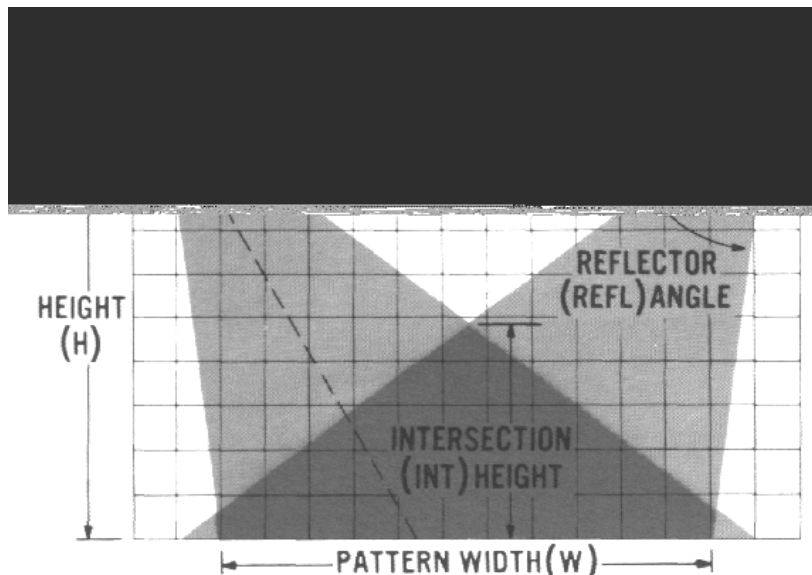
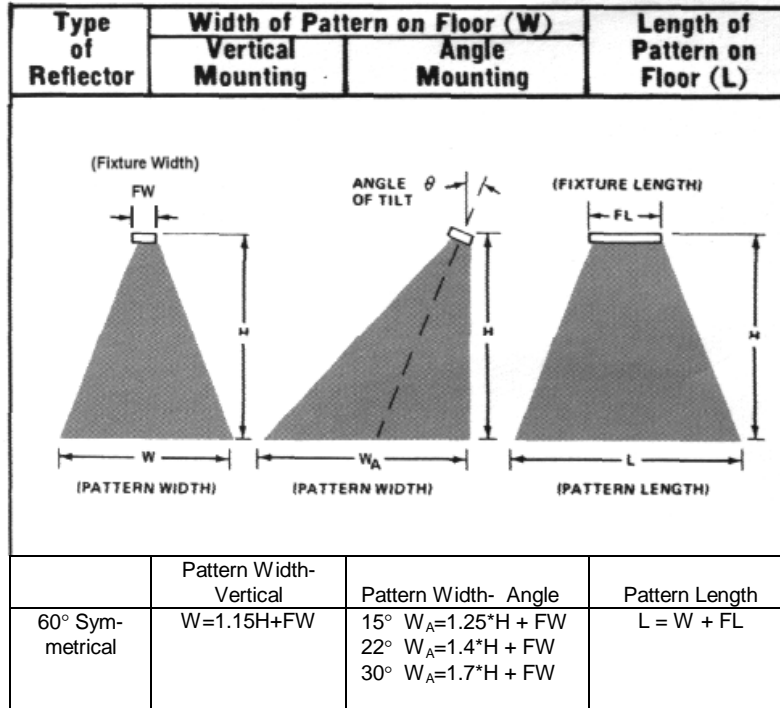
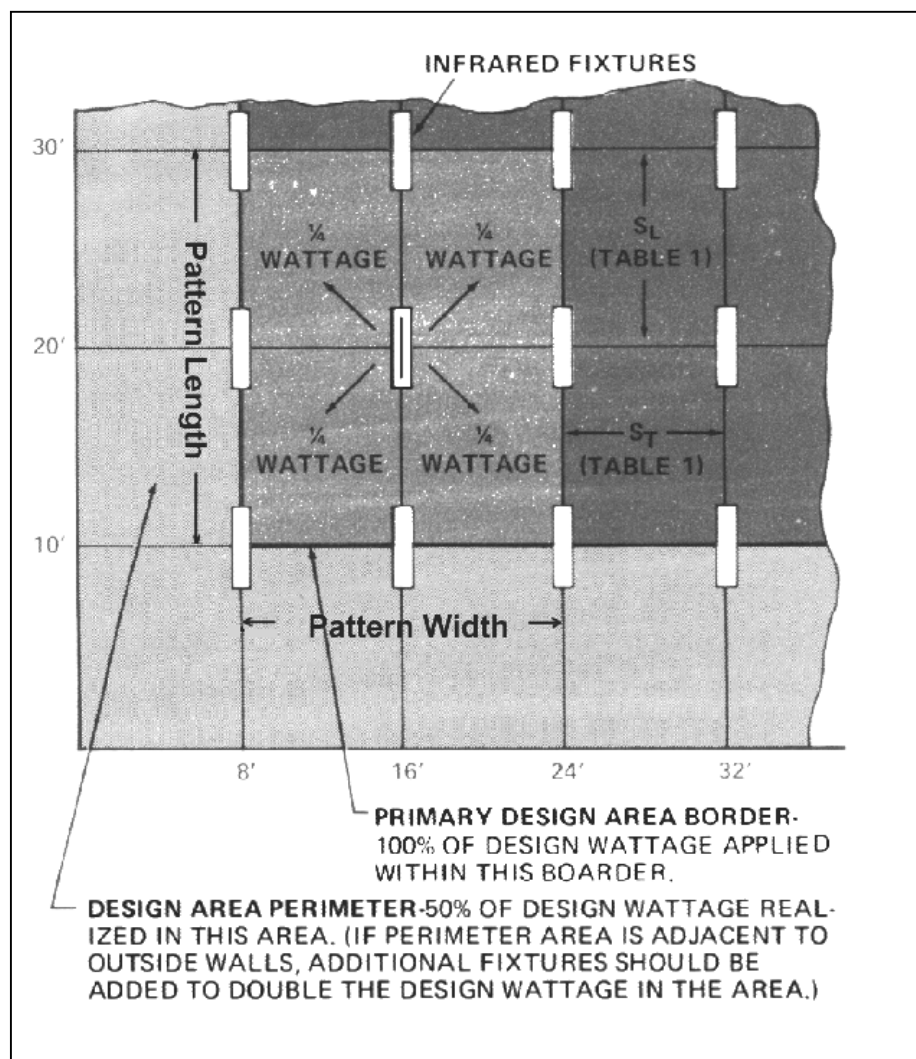

Figure 6: Cross Coverage of the Radiation Pattern by Angling the Heater in a Supplemental Heat Application
Figure 7: Radiation Pattern Areas for Vertical and Tilt Mount. **NOTE:** For vertical mounting of RBC type fixtures, refer to Graphs 2-6.
Figure 8: Typical Area Heating Layout
7. Tentatively estimate the radiated pattern area. Add length of fixture to the fixture pattern width (W) to establish pattern length (L). Pattern area = $L \times W$. See Figure 6. The formulas for the width and the length of the pattern area are shown in Figure 8.
10. Choose specific fixtures that meet the heating requirements noting that half the wattage should be on each side of the workstation in the design area. Space the heaters to provide a 50% overlap using the formula provided in Figure 8. See Figure 7 for typical layout.